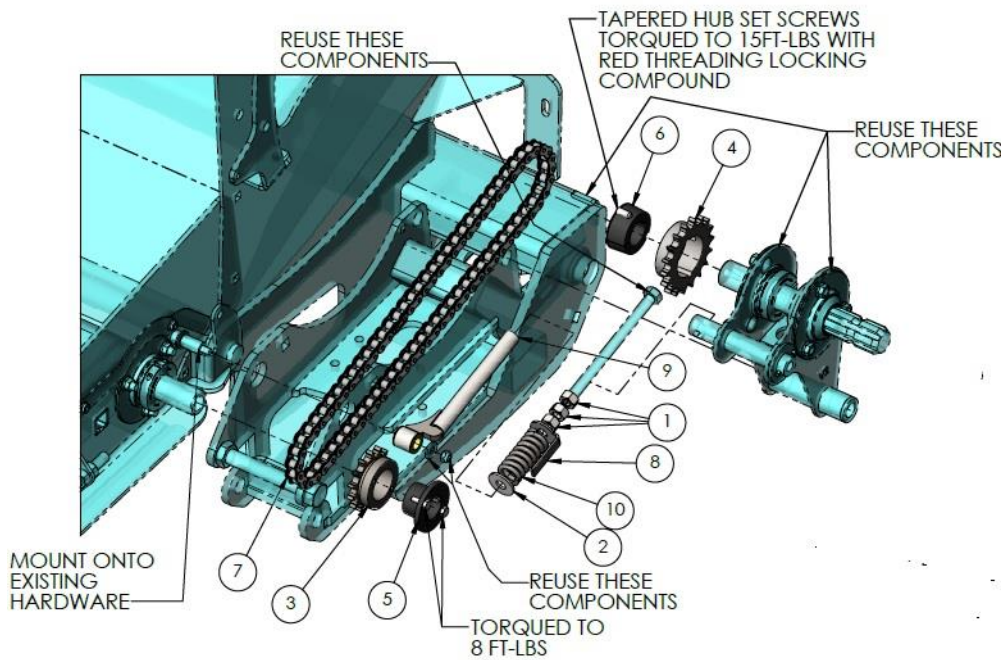

Figure 6
- The following is the kit that can be installed on Model Year 2019 headers Figure 6 with the parts list Figure 7.